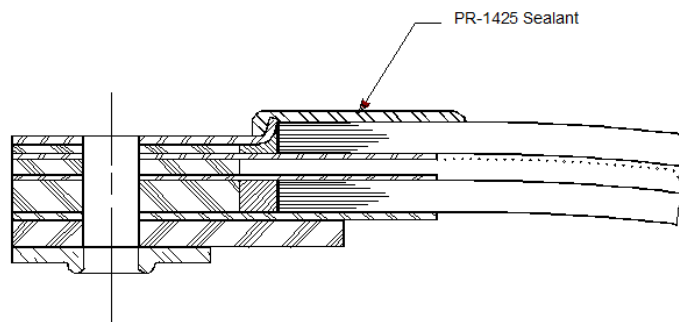

Figure 7 – After Repair of Strap and Addition of Sealant
- (7) Immediately remove the masking tape and smooth the surface of the wet sealant by rubbing the surface lightly and briskly with a cellulose sponge saturated with water or 100% isopropyl alcohol. You must use only light pressure for this step.
- (8) Allow the sealant to cure per manufacturer’s recommendations.
- (9) After sealant has cured, inspect for voids and repair as necessary. Finished repair should appear similar to Figure 7.